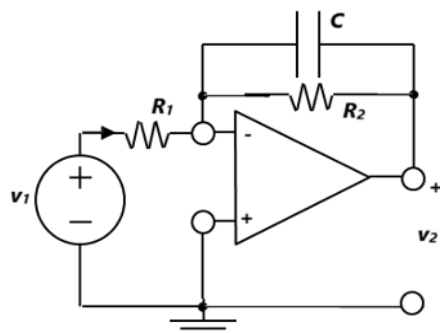

Fig. 4.3 Practical Integrator
Unfortunately, this circuit will never work in practice, because any non-zero average (DC) value of v_1 , as well as the very small but nonzero current flowing into the OpAmp input terminals will lead to a continuous change in the output voltage, eventually forcing the OpAmp to go into voltage saturation. So practical integrators include a second resistor R_2 in parallel with the capacitor as shown in **figure 4.3**.
1. Set up the practical integrator shown in figure 4.3 with $R_1=10\text{ K}\Omega$, $R_2=200\text{ K}\Omega$ and $C = 0.01\text{ microfarad}$. Follow the standard opamp pin connection for assembling the circuit including the connections to the DC power supply.